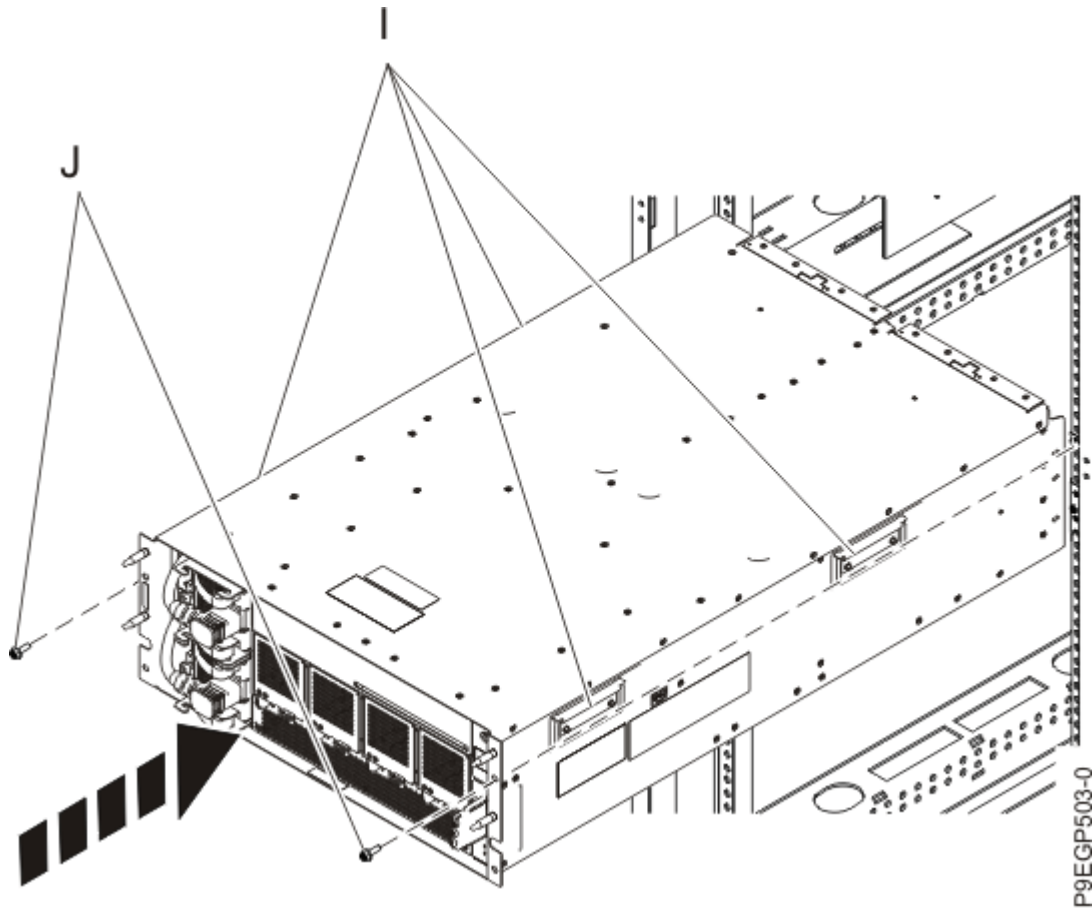

Figure 9: Installing the drawer into a rack
4. Using three people, have two people hold onto the four handles **(I)**, as shown in Figure 9 on page 13, and one person in front of the drawer to guide the drawer. Lift the drawer and position it over the front of the rails.
See Figure 9 on page 13.